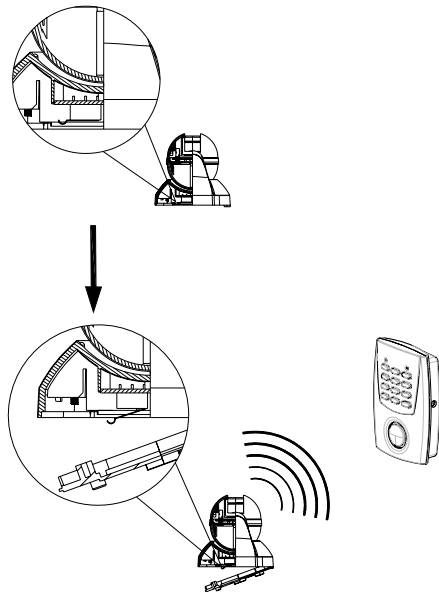

FIGURE 6
- 2. The EZ Alarm will sound for 30 seconds and be silent for 45 seconds as a cycle. Such a cycle will be repeated for 10 times, of which duration takes about 12-13 minutes. (FIGURE 6)